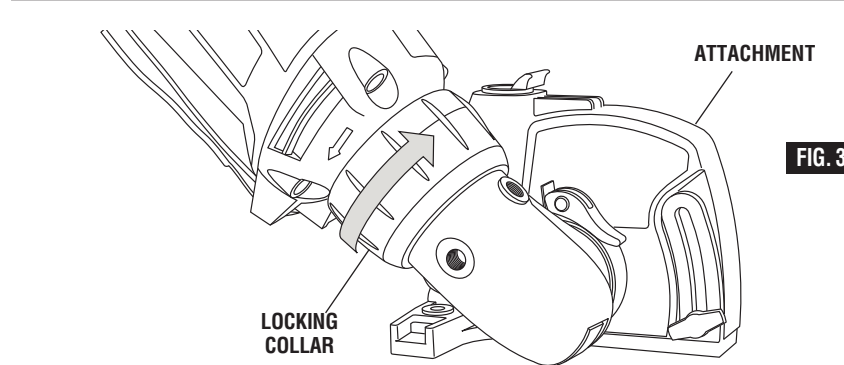

FIG. 3
4. Position attachment in desired orientation and rotate the locking collar until the attachment is secure. The locking collar has been tightened sufficiently when the Zipmate body can no longer move relative to the Spiral Saw® (figure 3).